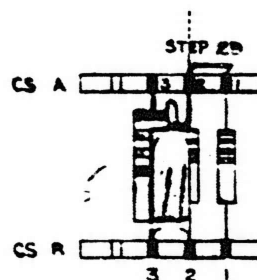

Fig. 5
- () 28. Lay the neon bulb assembly over the two 1 meg resistors, as in Fig. 5. Solder the leads at CSA-2, CSB-2 and CSB-3. Do not cut the lead attached to CSA-2. Dress the leads so they do not touch the resistors.
- () 29. Bend the lead extending beyond CSA-2 and solder to CSA-1 (see Fig. 5).